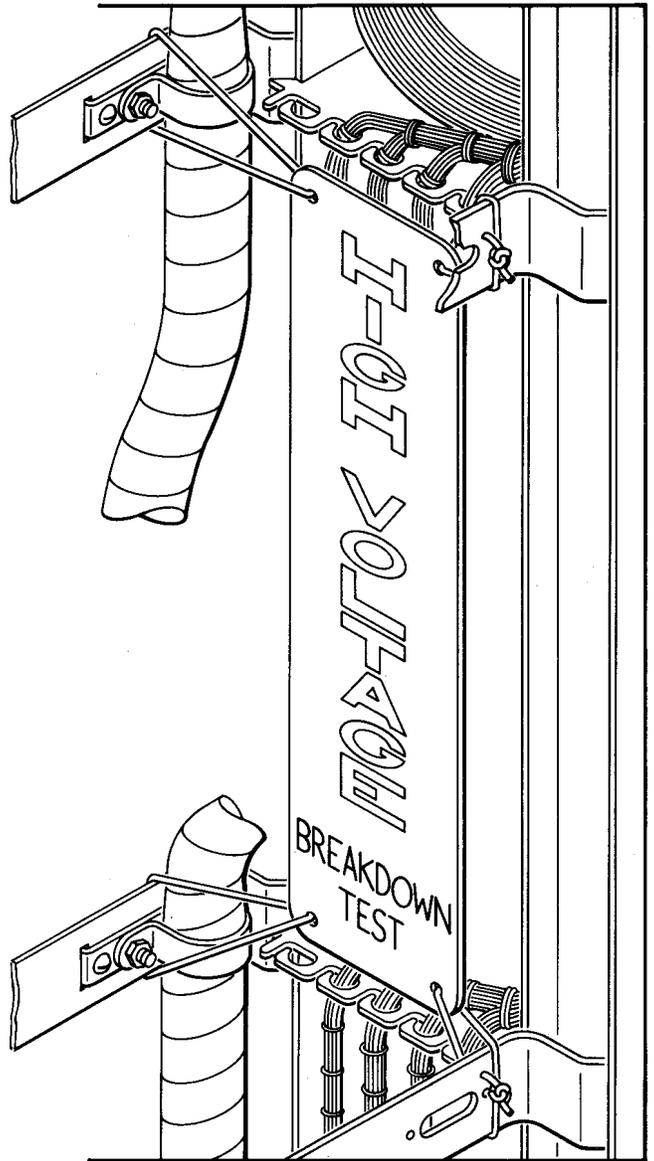

Fig. 2—E-Warning Sign Installed on Back Side of
3.04 ♦The *E-warning sign (AT-8325)* is furnished with cords for securing it to the back of the 302 or 308 connector as shown in Fig. 2. The cords may be tied around the wiring horns, cross arm supports, cable stubs, ground bars, or through fanning strip holes, whichever is most readily accessible. The combined use of the E-warning sign and the E-warning marker reduces the danger of exposure to high voltage by identifying both sides of the connector.